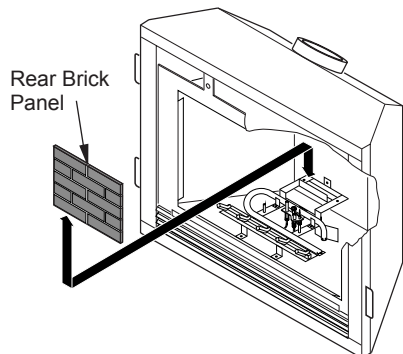

Figure 43 - Installing Rear Brick Panel
5. Install rear brick panel first. Rest bottom edge of panel on back edge of grate (see Figure 43).
6. Install left side brick panel by sliding it between the grate and the side of the firebox (see Figure 43).